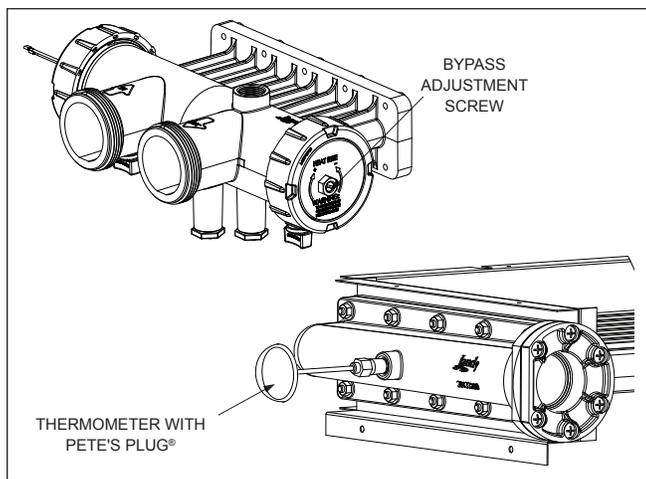

Figure 25. Temperature Rise Measurement
Before checking the temperature rise, make sure that the pool filter is clean and that gas supply and manifold pressures are correct. If necessary, clean all components of the filter system. Temperature rise is measured in the return header of the Legacy. To measure the temperature rise, turn off the filter pump and remove the plastic plug protruding through the cabinet on the return header side of the heater. See Figure 25. With the plug removed, install the special thread adapter and Pete's Plug® fitting and insert a pocket thermometer. A temperature rise measurement kit is available through your Zodiac distributor. See Section 11 of this manual for the correct kit number.
4. After three (3) minutes, note and record the thermometer reading. This is the pool water temperature.
5. Start the heater by setting the control panel to either "POOL" or "SPA". Allow the heater to operate for five (5) minutes or more. Note and record the thermometer reading. Subtract pool water temperature from this reading. This difference is the temperature rise. Refer to Table 9. If your measured temperature rise is within the range designated for your heater, skip steps 6 through 8.
6. Locate the bypass adjustment screw on the right-hand side of the header, see Figure 25. Loosen the nut so that the screw can be adjusted. A slight water leak past the nut may be expected. Turn the screw counterclockwise to decrease the temperature rise, and clockwise to increase the temperature rise as needed to achieve the ranges in Table 9. After the adjustment, tighten the nut so that no leaks occur.